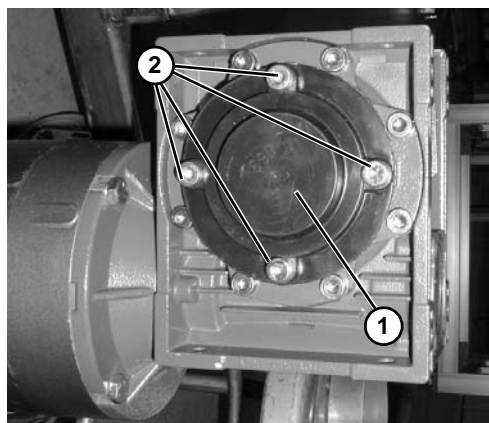

Figure 28
4. Install cover (**Figure 28, item 1**) with four (4) screws (**Figure 28, item 2**).